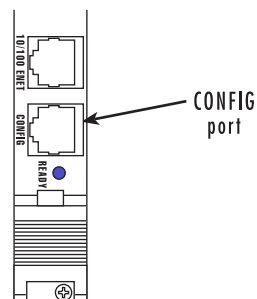

Figure 20. Model 6511RC interface ports
3. Connect the RJ45-RJ45 cable between the adapter that you installed in step 1 and the *CONFIG* port on the front of the Model 6511RC (figure 20).